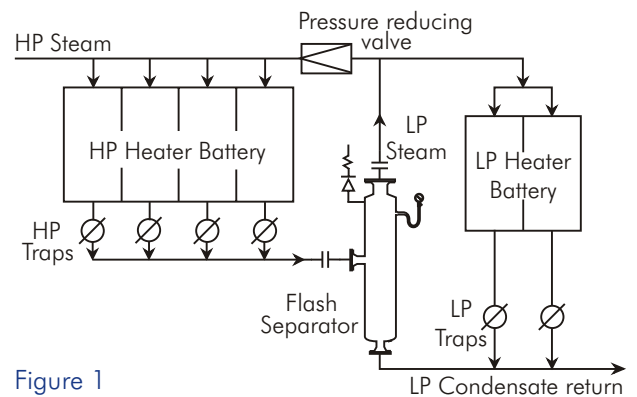

Figure 1
- Low pressure steam can be useful in LP steam processes. This is well illustrated in Fig 1.